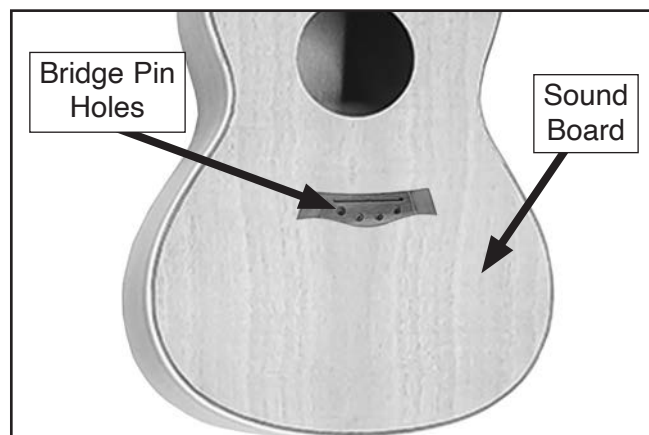

Figure 19. Bridge pin locations.
1. Carefully drill (4) holes in bridge using $\frac{5}{32}$ " Forstner bit at bridge pin hole locations (see **Figure 19**).